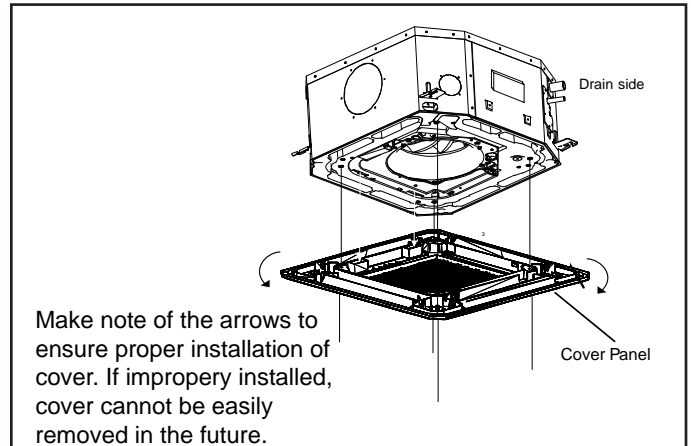

Figure 24. Install Panel Cover
2. Slide the two grille latches toward each other at the same time to release the grille. See Figure 24. Tilt the return air grille outward at a 45° angle (grille is held in place by tethers). Release the tethers and lift the grille away from the panel. Carefully place the return air grille off to the side.
3. Position the ceiling panel so that the arrow on the panel is aligned with the arrow sticker on the cassette base (both arrow stickers should be on the same side of the cassette base). **NOTE** - If the panel and the base are not properly aligned, the airflow will be blocked and the harness plugs from the panel to the cassette base will not be long enough to plug together. See Figure 24.